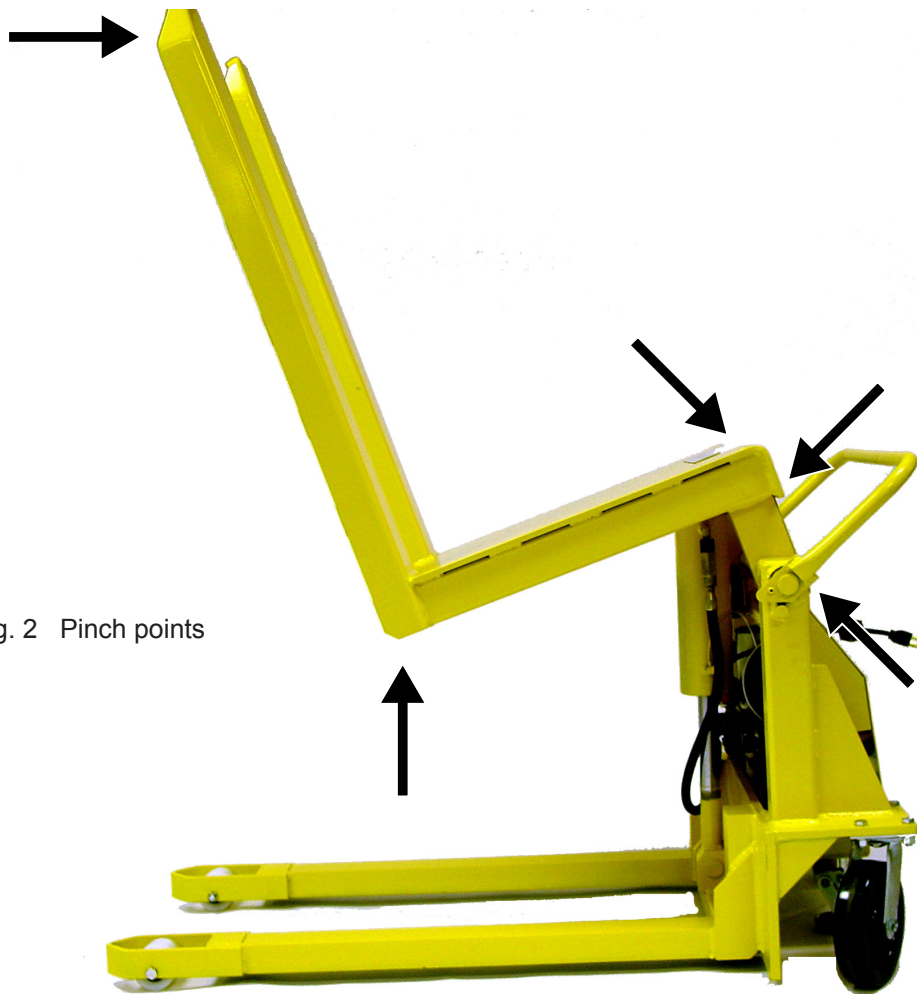

Fig. 2 Pinch points
As the tilt platform moves up and down, “pinch points” are created at the places shown in Fig. 2. If you are standing too close to the unit when it is moving, your arm or leg may be caught in the moving parts, and you may be hurt. Stay away from the pinch points when the unit is moving.
- As the unit is operating, stay away from the moving parts shown in Fig. 2.
As the tilt platform moves up and down, “pinch points” are created as shown in Fig. 2. Stay away from these pinch points! Part of your body or clothing may become caught, and you may be hurt. Do not put your hands or feet under the tilt platform. Do not stand or sit on the tilt platform.
As the tilt platform moves up and down, “pinch points” are created as shown in Fig. 2. Stay away from these pinch points! Part of your body or clothing may become caught, and you may be hurt.
- **As the unit moves up and down, "pinch points" are formed as shown in Fig. 2. Keep hands, feet, and loose clothing away from these pinch points. If your hand or arm or a part of your clothing is caught, you may be hurt.**